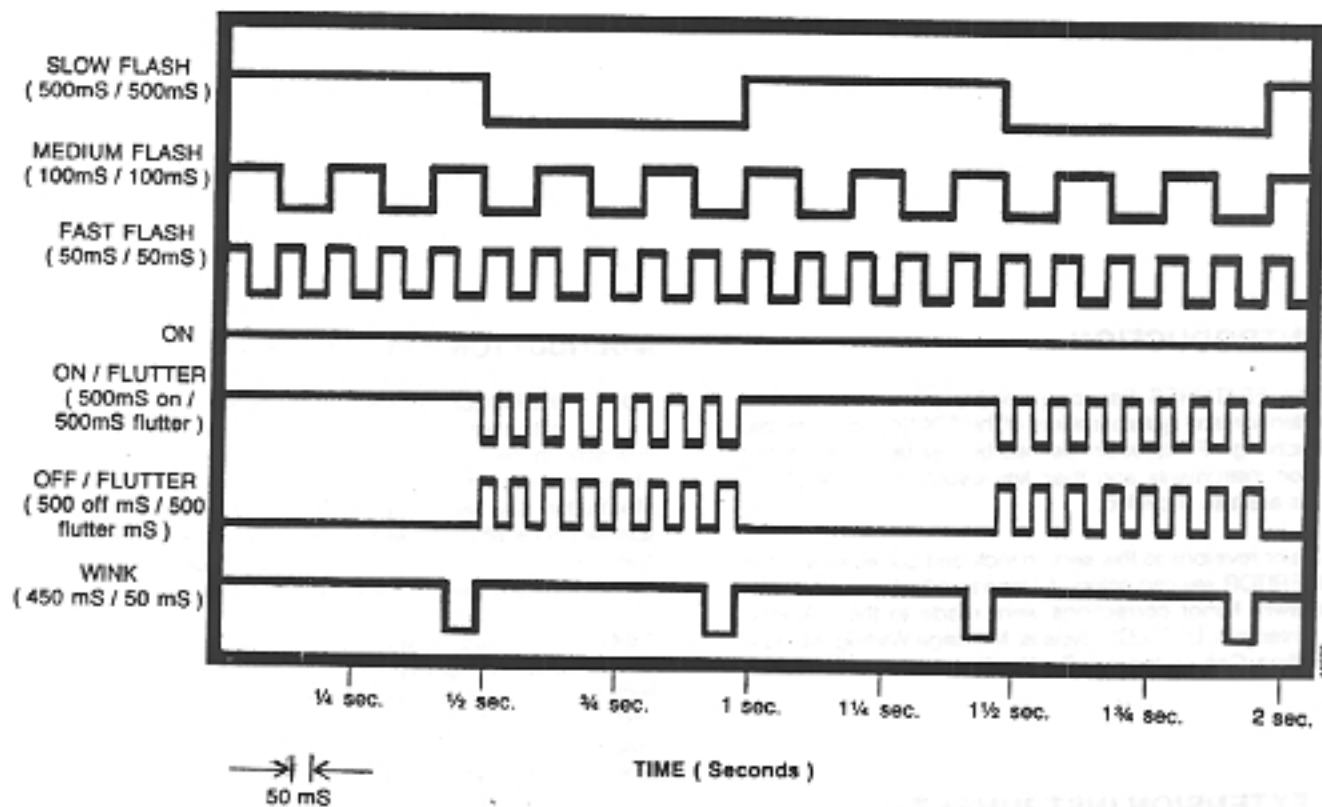

Figure 2-1 FLASH PATTERNS, TCX-128
**2.01** The extension instruments used with the TCX-128 system are: the Multibutton Key Telephone, the Display Multibutton Key Telephone, the Four-Button Key Telephone and the 2500 type single line telephone. The Attendant Telephone may be either the Multibutton Key or the Display Multibutton Key Telephone. All key telephones contain a speaker for tone signaling and handsfree Intercom (ICM) announcements. Visual and audible signals provide various tone and flash patterns that distinguish outside Central Office (CO), ICM and paging calls. Only audible signals are available on single line telephones. The flash and tone patterns are graphically presented in Figures 2-1, 2-2 and 2-3.